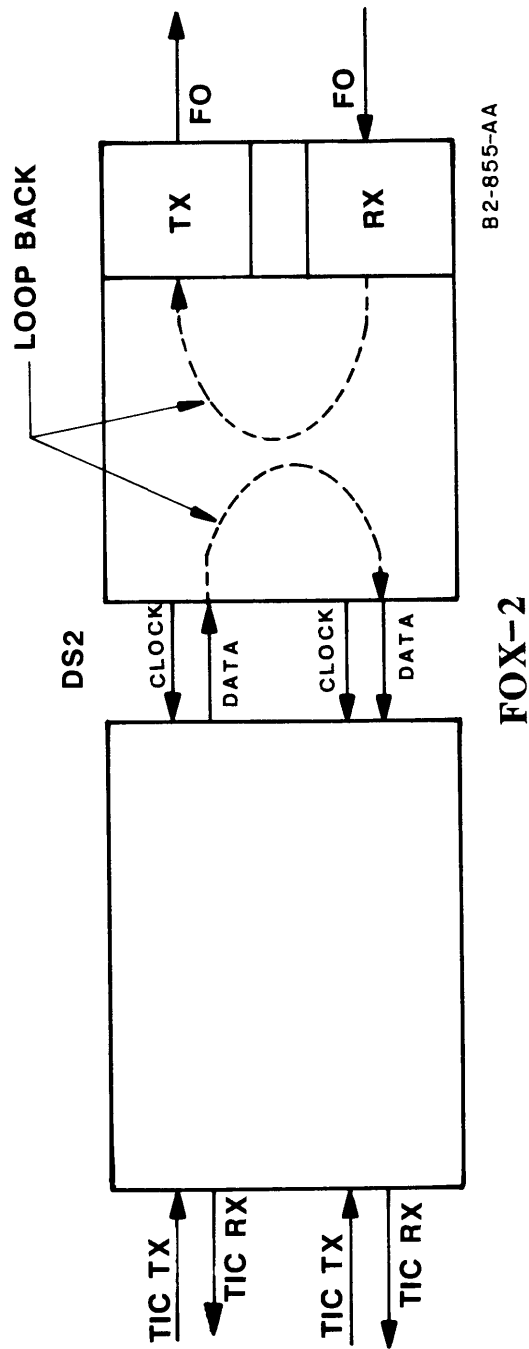

Figure 4. LTU Card Loop Back Diagram
3.07 The MPU card interface allows the control MPU to command the loopback switches on the LTU card. See Figure 4 for diagram of loopback paths.